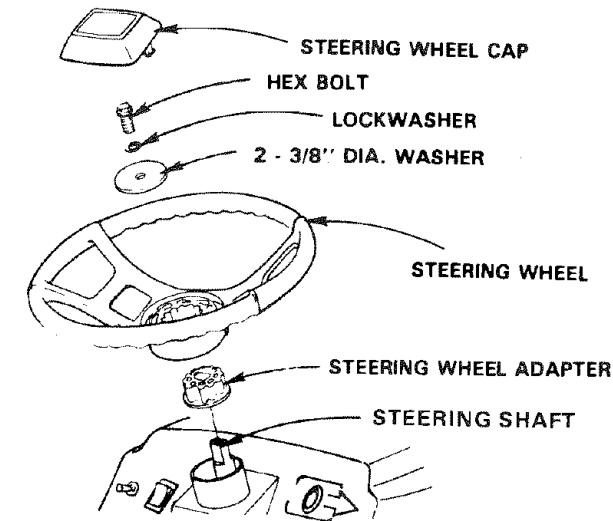

FIGURE 3
- a. Use a 9/16" wrench to remove hex bolt, lockwasher and 2-3/8" diameter washer (shown full size below) from steering shaft (Fig. 3)
c. Secure steering wheel to steering shaft using hex bolt, lockwasher and 2-3/8" diameter washer (Fig. 3).